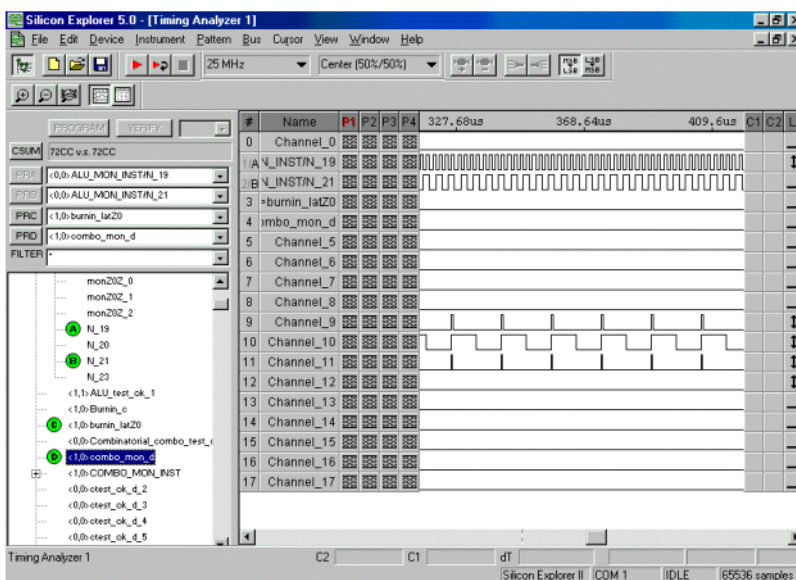

Figure 2-1. Silicon Explore Window with an AX Probe File
The Explorer software consists of two components, the Command module and the Analyze module. The Command module of the Explore software lists all the observable nets in the FPGA. Use the Command module to verify that you programmed the correct design in the FPGA. The Analyze module is an 18-channel logic analyzer that automatically displays the signals for both probe outputs (and up to 16 additional signals) on the target system. PRC and PRD are not displayed for other device families. Figure 2-1 shows the Silicon Explorer with an Axcelerator probe file loaded.
1. **Select the desired signal from the tree by clicking the net name (see Figure 2-1).** You can use the filter box to search nets quickly. Use multiple wildcard characters (“\*”) to restrict your search.